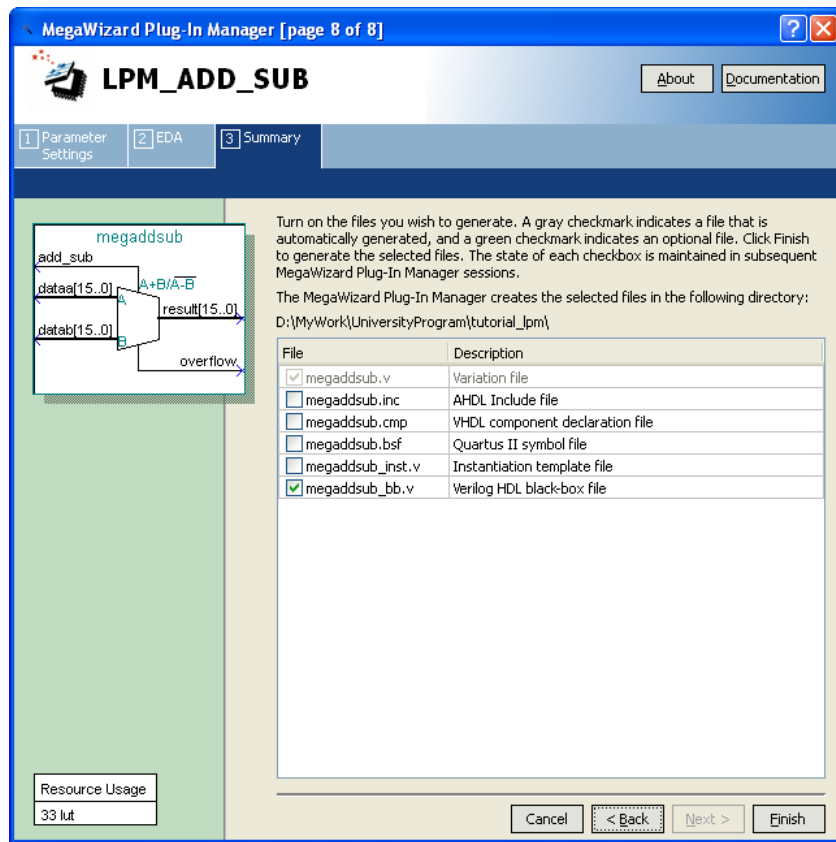

Figure 11. Files created by the wizard.
9. Figure 11 gives a summary which shows the files that the wizard will create. Press Finish to complete the process.